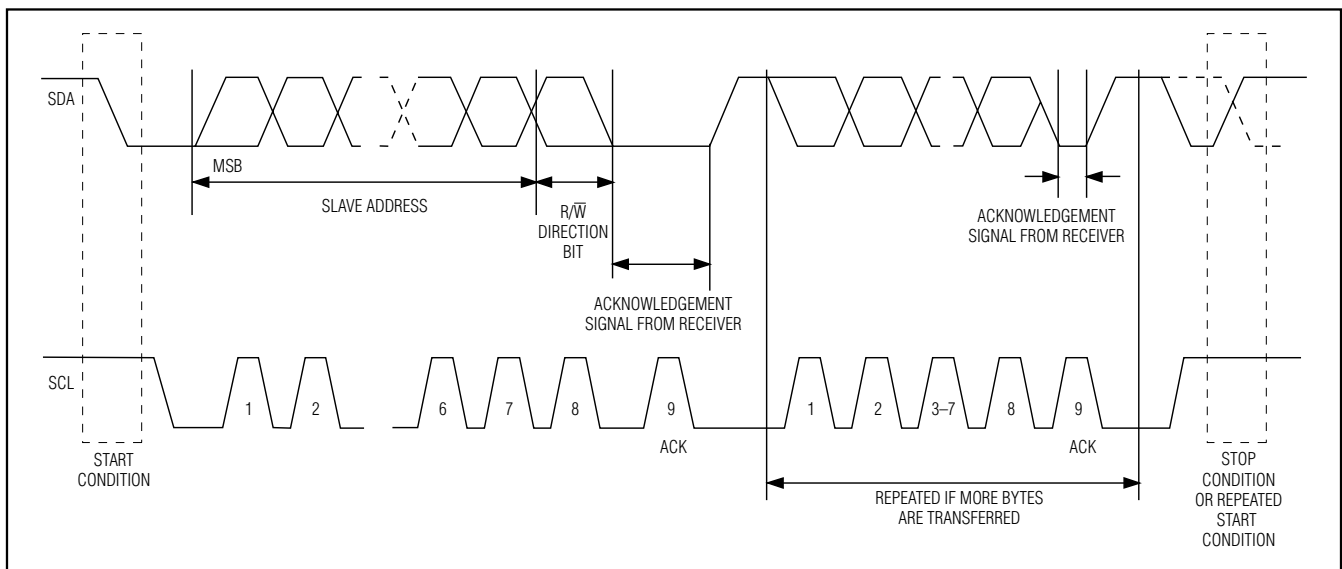

Figure 4. 2-Wire Data Transfer Protocol
**Clock and Data Transitions:** The SDA pin is normally pulled high with an external resistor or device. Data on the SDA pin may only change during SCL-low time periods. Data changes during SCL-high periods will indicate a START or STOP condition depending on the conditions discussed below. See the timing diagrams in Figures 4 and 5 for further details.
**START Condition:** A high-to-low transition of SDA with SCL high is a START condition that must precede any other command. See the timing diagrams in Figures 4 and 5 for further details.
**STOP Condition:** A low-to-high transition of SDA with SCL high is a STOP condition. After a read or write sequence, the stop command places the DS1856M into a low-power mode. See the timing diagrams in Figures 4 and 5 for further details.
The 2-wire serial-port interface supports a bidirectional data transmission protocol with device addressing. A device that sends data on the bus is defined as a transmitter, and a device that receives data as a receiver. The device that controls the message is called a master. The devices that are controlled by the master are slaves. The bus must be controlled by a master device that generates the serial clock (SCL), controls the bus access, and generates the START and STOP conditions. The DS1856M operates as a slave on the 2-wire bus. Connections to the bus are made through the open-drain I/O lines SDA and SCL. The following I/O terminals control the 2-wire serial port: SDA, SCL. Timing diagrams for the 2-wire serial port can be found in Figures 4 and 5. Timing information for the 2-wire serial port is provided in the *AC Electrical Characteristics* table for 2-wire serial communications.